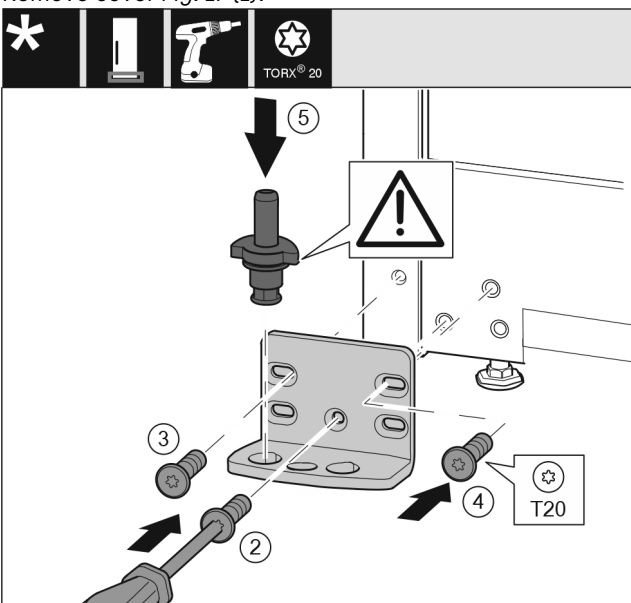

Fig. 18
- Place the swap bearing block on the other side and use a screwdriver to screw it on. Start with the screw Fig. 18 (2) at the bottom in the middle.
- Tighten screw Fig. 18 (3) and screw Fig. 18 (4).
- Insert the bearing bolt Fig. 18 (5) completely. Ensure that the latching cam is pointing towards the rear.